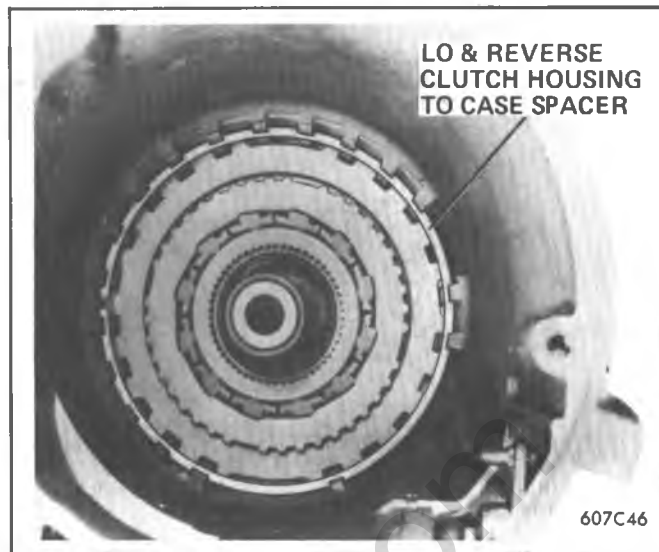

Figure 7A1-92 Proper Location of Low and Reverse Housing to Case Spacer
1. Inspect rear sun gear for cracks, splits, damage spline, worn gear or journals and plugged lubrication holes. (Figure 7A1-96).